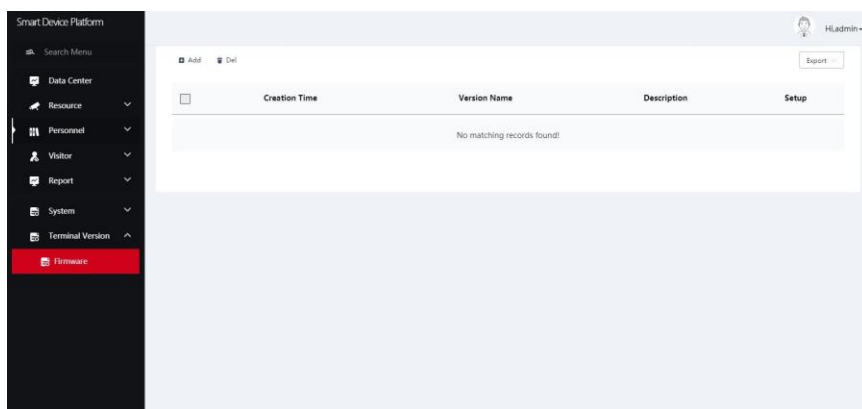

Figure 5-100
Step 1: In the smart device platform interface, click "Terminal Version→Firmware" to enter the firmware version interface, as shown in Figure 5-100 below.